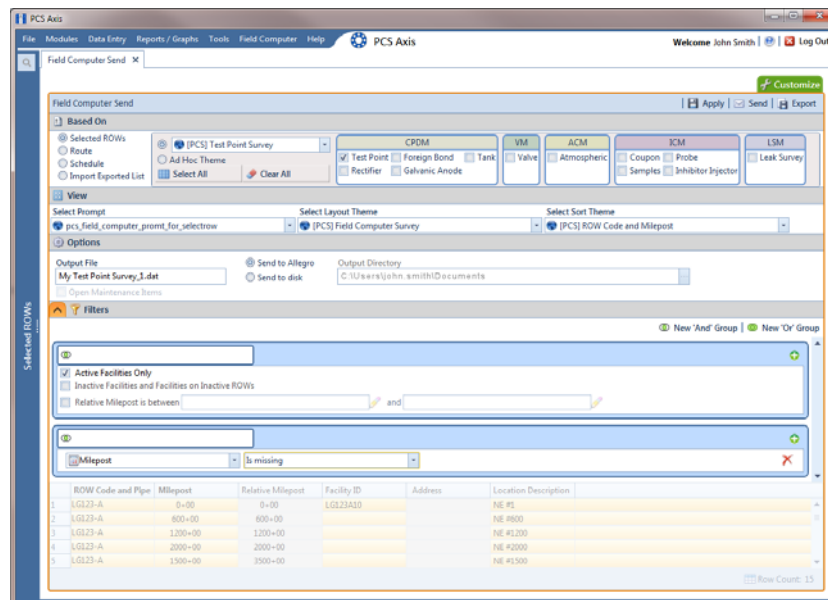

Figure 13-3. New 'And' Filter
- 7 If you want to work with a subset of facility records that meet *all* filter conditions, create an AND filter group using the following steps (Figure 13-3):
- 10 If the check box **Open Maintenance Items** is available for selection, click the check box if you want to include open maintenance records in the survey file (Figure 13-3, page 554).